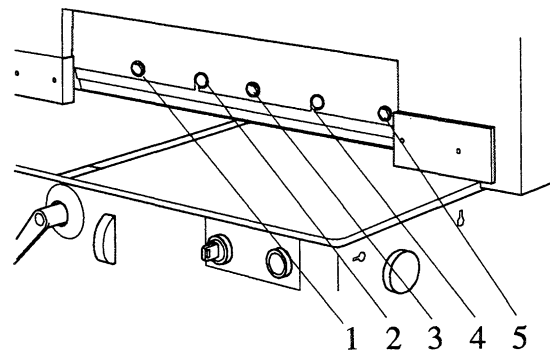

Fig. 4-12
- Gradually tighten knife mounting bolts in order 1, 2, 3, 4, 5. (*Fig. 4-12*).